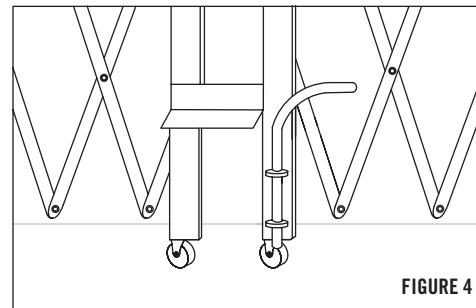

FIGURE 4
- 4) Raise center drop pin and use attached notch to keep in place; this prevents damage to floor surface. (See Figure 4) Extend and retract gate to its stops to work out stiffness. Repeat steps 2-3 for other half of gate.